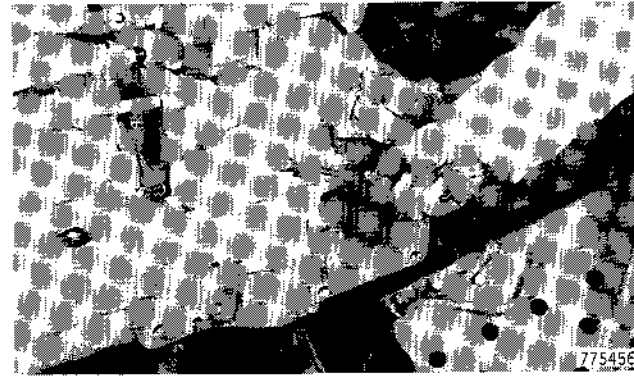

Figure 39
41. Remove the cap screws from the clutch housing, Figure 39.